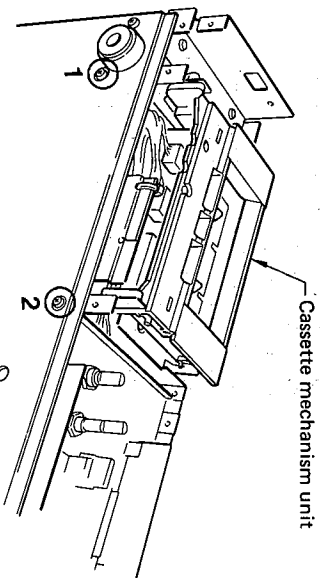

Fig. 4
- d. Remove screws ① and ③ in fig. 4, and you can remove the cassette mechanism unit.